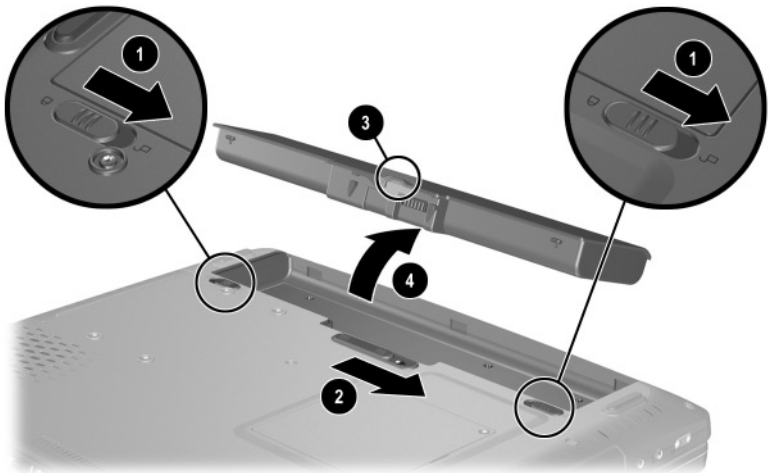

Figure 5-2. Removing the Battery Pack
- b. Slide the battery pack lock latches **1** to the right (Figure 5-2).